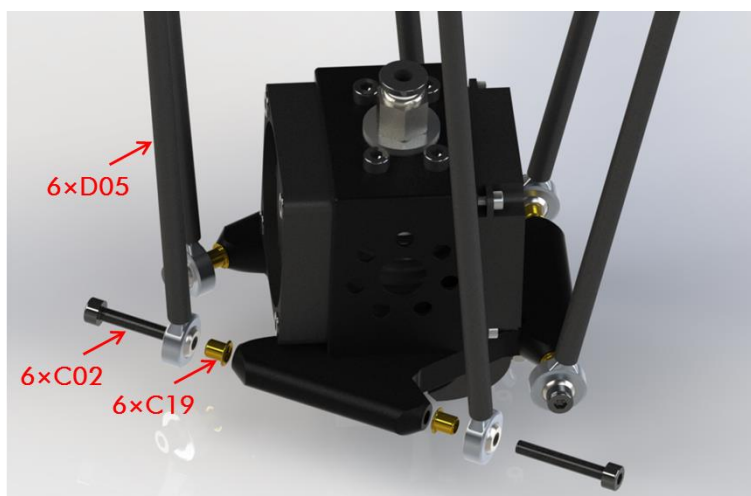

Fig. 9
Step 3. Fix 6 carbon fiber tubes (CFT, D05) onto A03 using C02 and C19, shown in Fig. 9. Note the direction of C19, the copper spacer.